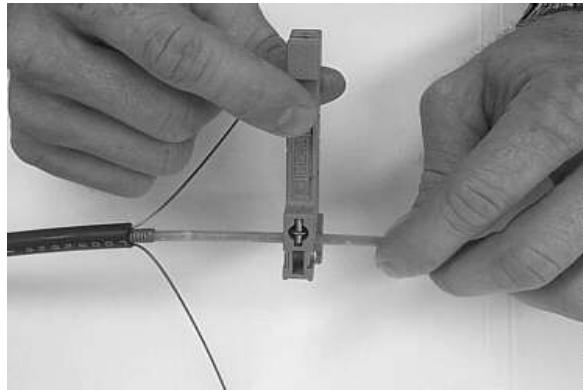
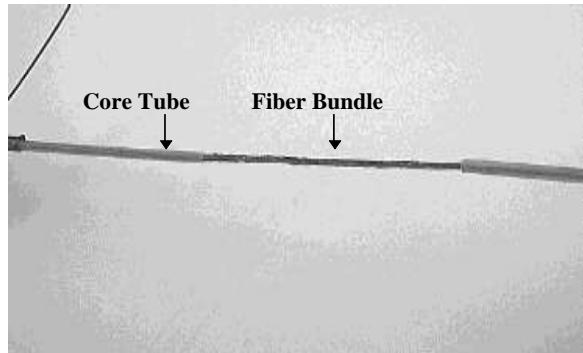

Figure 8 - Score the buffer tube.
Figure 9 – Remove the buffer tube and cable jacket to expose the fiber bundle.
4.9 Consult the splice closure instructions for the buffer-tube length required in the closure. Measure and mark the buffer tube as required. Use a buffer tube cutting tool to score the buffer tube at the mark (Figure 8). Flex and separate the buffer tube at the score mark. Remove the cable jacket and buffer tube to expose the fiber bundle (Figure 9).